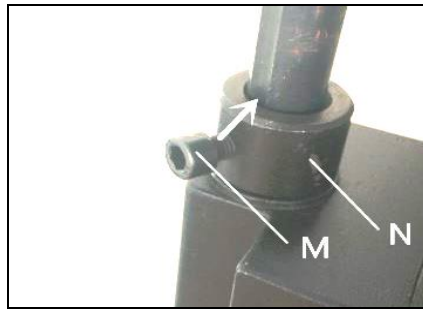

Fig. 6.2
2. If both internal and external shields cannot provide enough protection, loosen locking bolt (M) to shift setting ring (N) in proper position.
Note: Make sure the bolt (M) aligning to the groove (aimed by the arrow), otherwise the interlock switch would not be triggered when the shields being opened (Fig. 6.2).